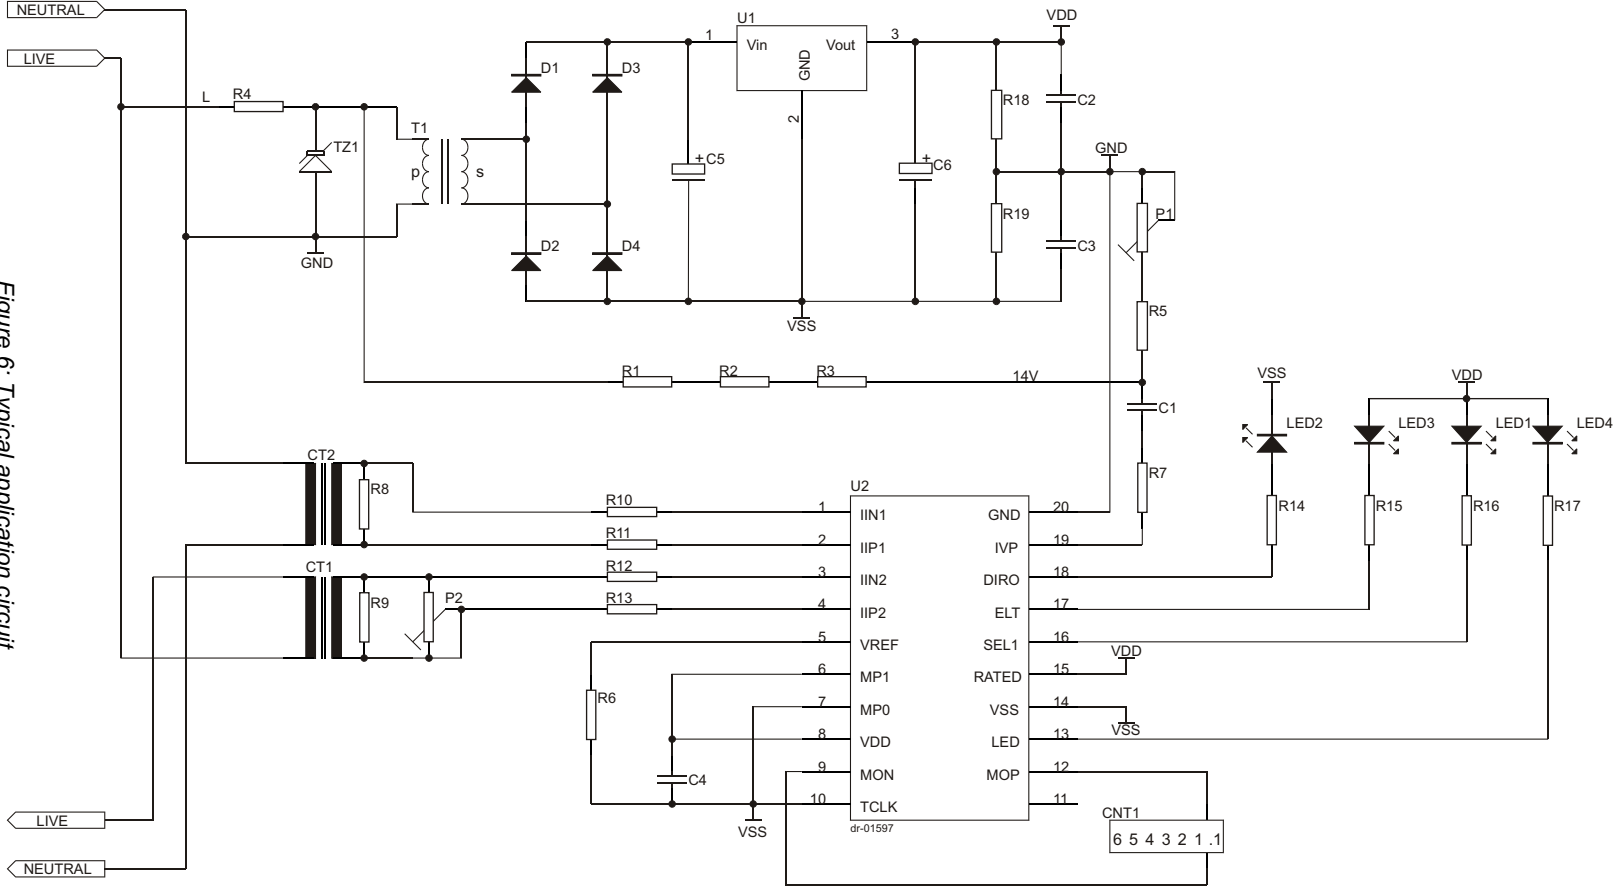

Figure 6: Typical application circuit
In the Application Circuit (Figure 6), the voltage drop across the shunt will be between 0 and $16mV_{RMS}$ (0 to 80A through a shunt resistor of 200μ). The voltage across the current transformer terminating resistor will also be between 0 and $16mV_{RMS}$. These voltages are converted to currents to currents of between 0 and $16mV_{RMS}$ for each current sense input, by means of resistors R_{10} and R_{11} (channel 1) as well as R_{12} and R_{13} (channel 2).
**SA2007M****sames****Parts List for Application Circuit: Figure 6**